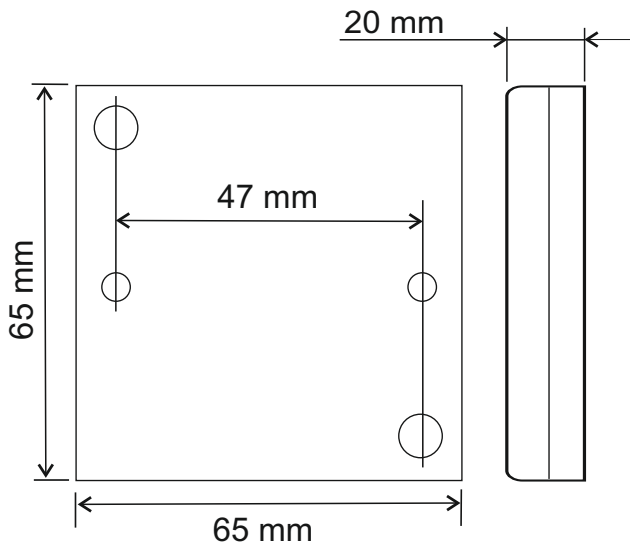

Figure 2.Device dimensions.
- Mark and drill mounting holes of the same size as the mounting holes in reader casing (Figure 2);